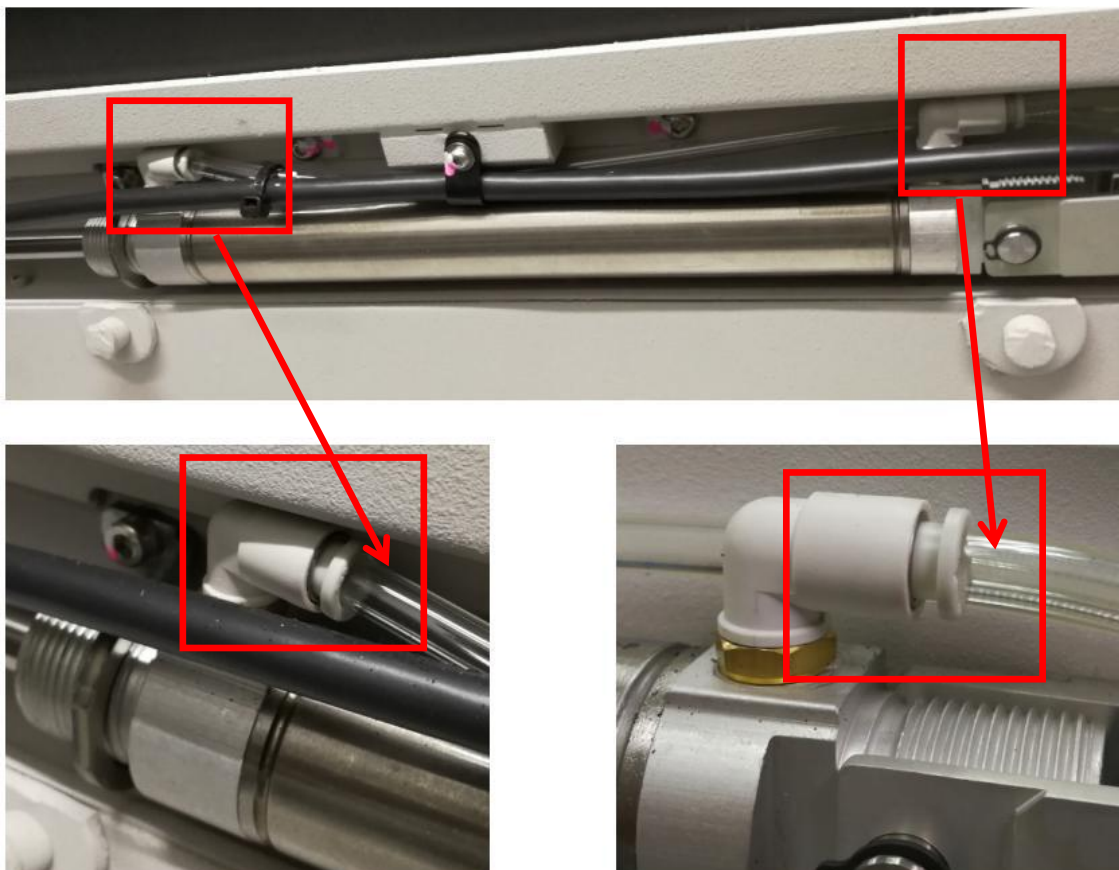

Figure 2
5. Perform marking at both tubing & remove 2 x Tubing from Outer Barrier Speed Controller as Figure 2.